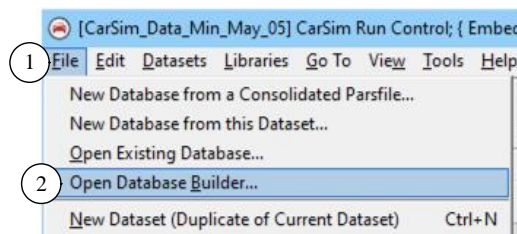

Figure 3. Use the File menu command Open Database Builder.
You can access the Database Builder any time after the initial installation of CarSim. It can be viewed whenever the **Select Recent Database** window appears. The Database Builder can also be brought up directly from within CarSim using the **File** menu (1) command **Open Database Builder** (2) (Figure 3).